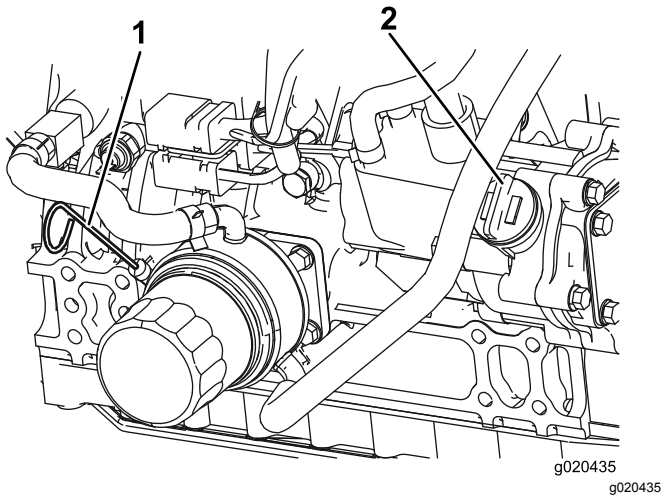

Figure 51
2. Remove the dipstick, wipe it clean, install the dipstick into the tube, and pull it out again. The oil level should be between the full and add marks (Figure 51).